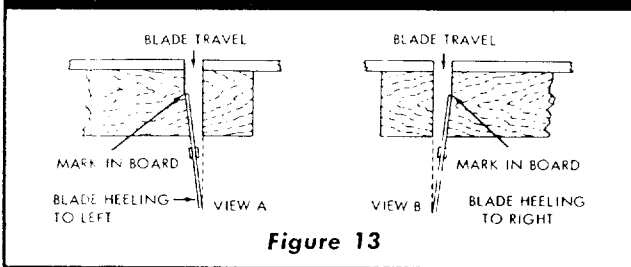

Figure 13
2. If a gap exists between the saw blade and the square, one of two types of "heel" exists. The two types of "heel" are illustrated in views "A" and "B", figure 13. To correct for either type of "heel" condition, proceed as follows:
- d. If the heel is in the direction shown in "View A" (figure 13), insert a 1/8-inch Allen wrench and loosen the set-screw at left rear position, then tighten set-screw at right rear the same amount. (See figure 14.)
- e. If the heel is in the direction shown in "View B" (figure 13), loosen the right rear set screw and tighten the left rear set-screw the same amount. (See figure 14.)